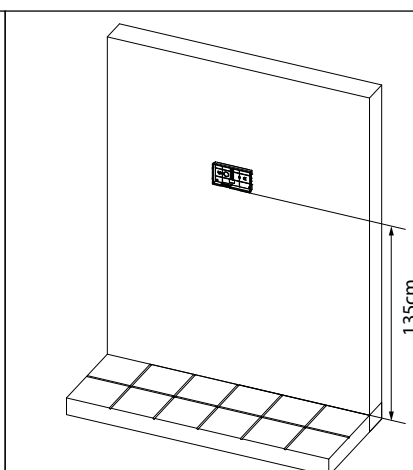
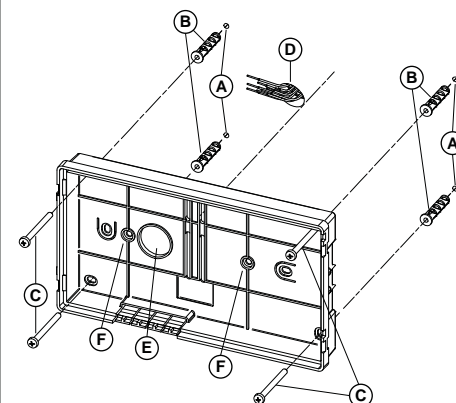

Fig. 2
Fig. 3
**In order to prevent water ingress we highly recommend using a silicon sealant between the wall and the back box C (Fig.3) and around all holes D (Fig.3);**
2. Put the base of the unit on the wall at approx 135cm from the finished floor to match the points for the fixing holes "A" (**Fig. 2**) remembering that the wires "D" (**Fig. 3**) must be fed through the large hole "E" (**Fig. 3**). If you use the flush mounting box 503, embed it into the wall vertically at approx. 140cm from the finished floor and the base.
3. Following **Fig. 3**, make the holes "A", insert the wall plugs "B" and fix the base with the screws "C" feeding the wires "D" through the hole "E". If you have used the box 503, fix the base to the wall through the holes "F" using the screws "C".